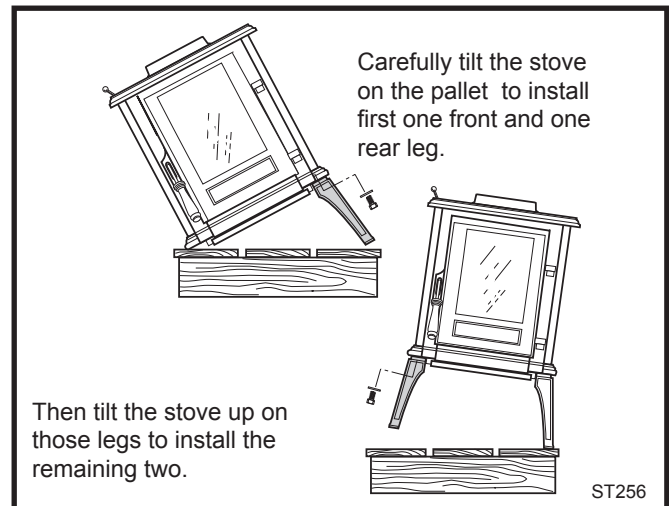

Fig. 22 Install legs on one side of stove then the other.
2. Install two legs, using the hex head bolts with washers from the parts bag. The shoulder of the legs should seat within the locator bosses cast into the stove bottom at each corner. (Fig. 22) Tighten the bolts with the wrench. **CAUTION: Overtightening can strip tapped threads.**